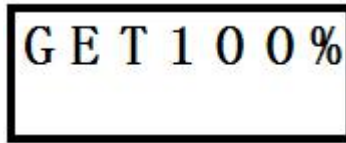

Figure26
4.2 Start and browse the menu and then select "GET 100%" menu item, as shown in Figure 26;
4.4 Enter "Confirm" once to clear the message and return to the menu, as shown in Figure26.